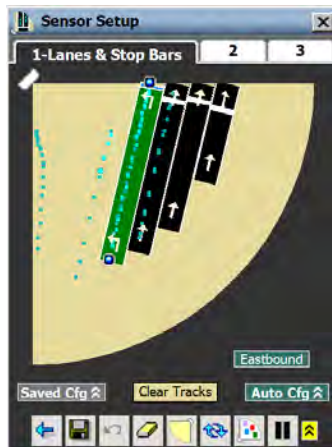

Figure 7.19 – Changing Lane Arrows
- 2 Click on the arrow in the lane to toggle through the different arrow options (see Figure 7.19).